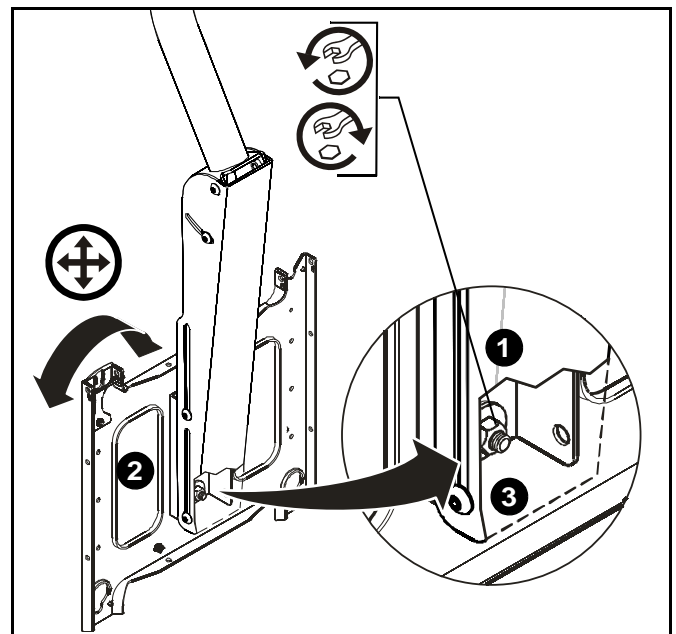

Figure 8
1. Loosen 3/8-16 Nylock nut. (See Figure 8)
2. Adjust faceplate to desired position. (See Figure 8)
3. Tighten 3/8-16 Nylock nut. (See Figure 8)